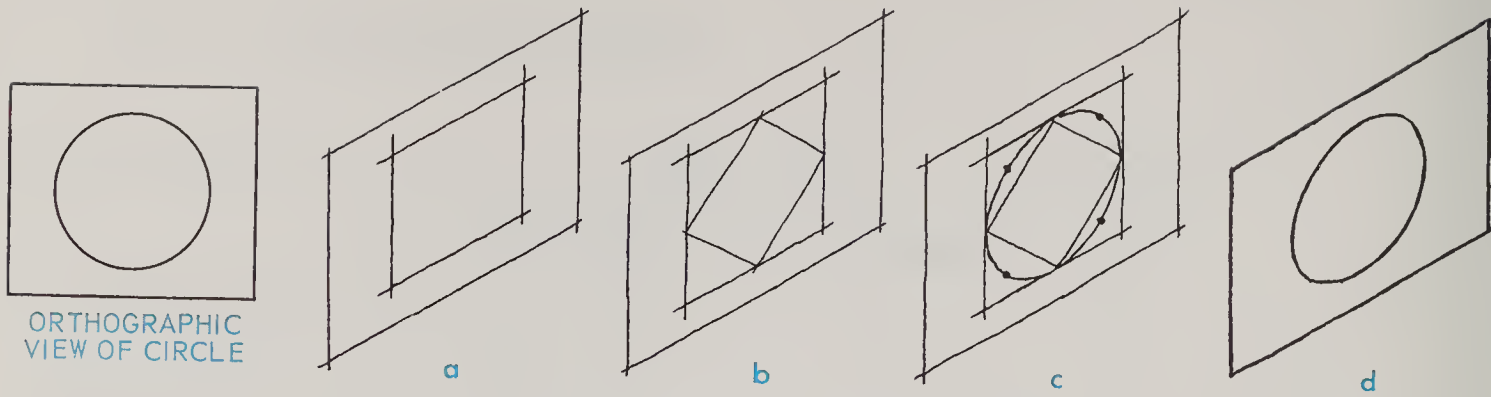

Fig. 13-4. Steps in sketching an isometric circle.
1. Sketch an isometric square to enclose location of circle, Fig. 13-4(a).
2. Locate the midpoints of the sides of the isometric square and connect these midpoints, Fig. 13-4(b).
3. Locate the midpoints of the triangles formed and then sketch isometric arcs through each to form a circle, Fig. 13-4(c).
4. Erase construction lines and darken circle, Fig. 13-4(d).